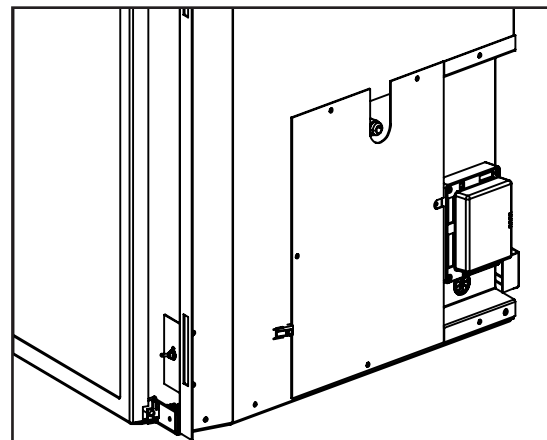

Figure 34: Gas Connection Location.
- A  $\frac{3}{8}$ " 45° flared fitting and flex connector are supplied with the unit (see Figures 34 and 35). Consult the local authorities for local codes or use the CAN/CGA B149 (1 or 2) installation code in Canada. In the US, gas installations follow either local codes or the current edition of the National Fuel Gas Code ANSI Z223.1.